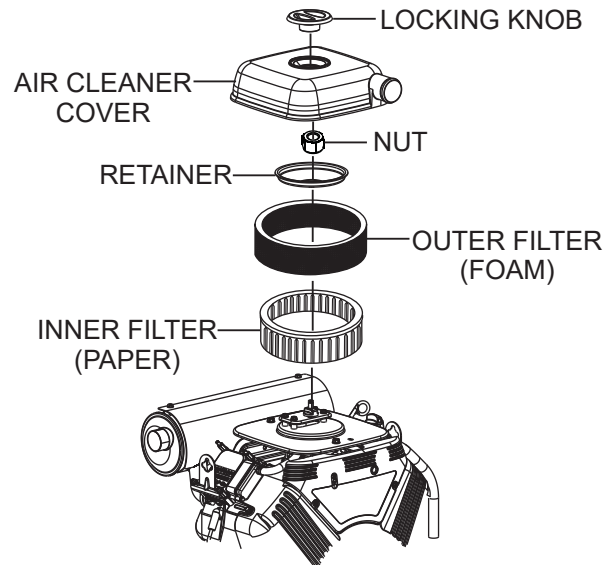

Figure 20. Air Filter Components
1. Unscrew the latch locking knob (Figure 20) located on top of the air cleaner cover, and remove the cover.